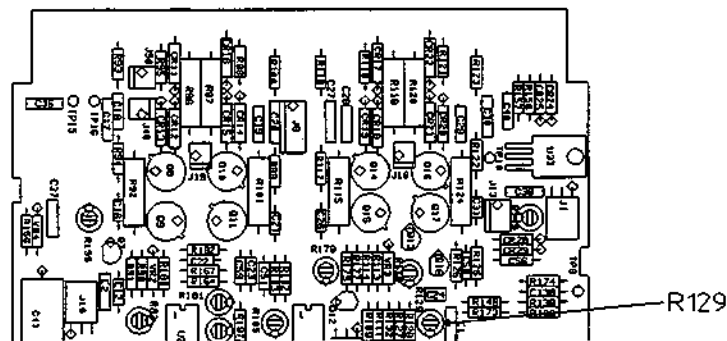

Figure 5-13. A81 Adjustment Locations
- c. Set the front panel INTENSITY control and the Beam Cut-Off control (A81 R129) both to the CCW stops. Refer to figure 5-13.